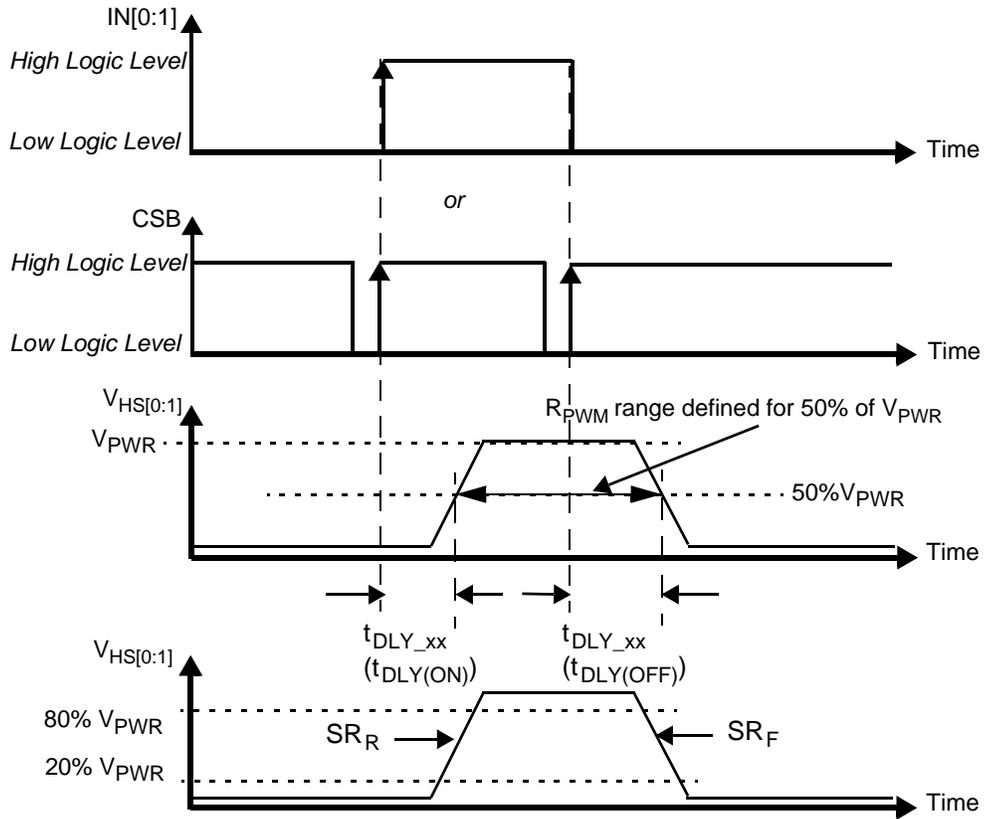
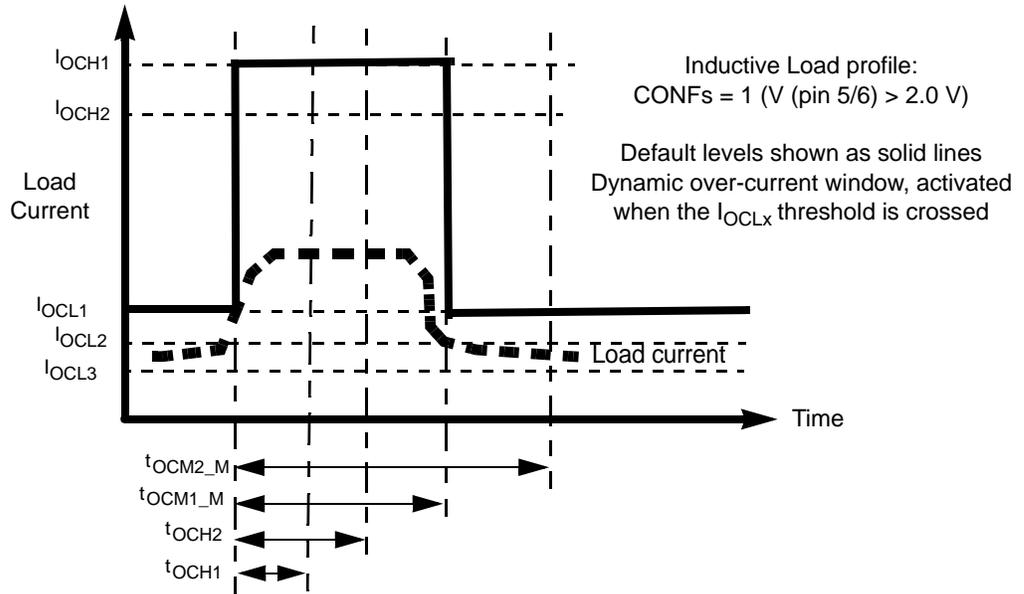
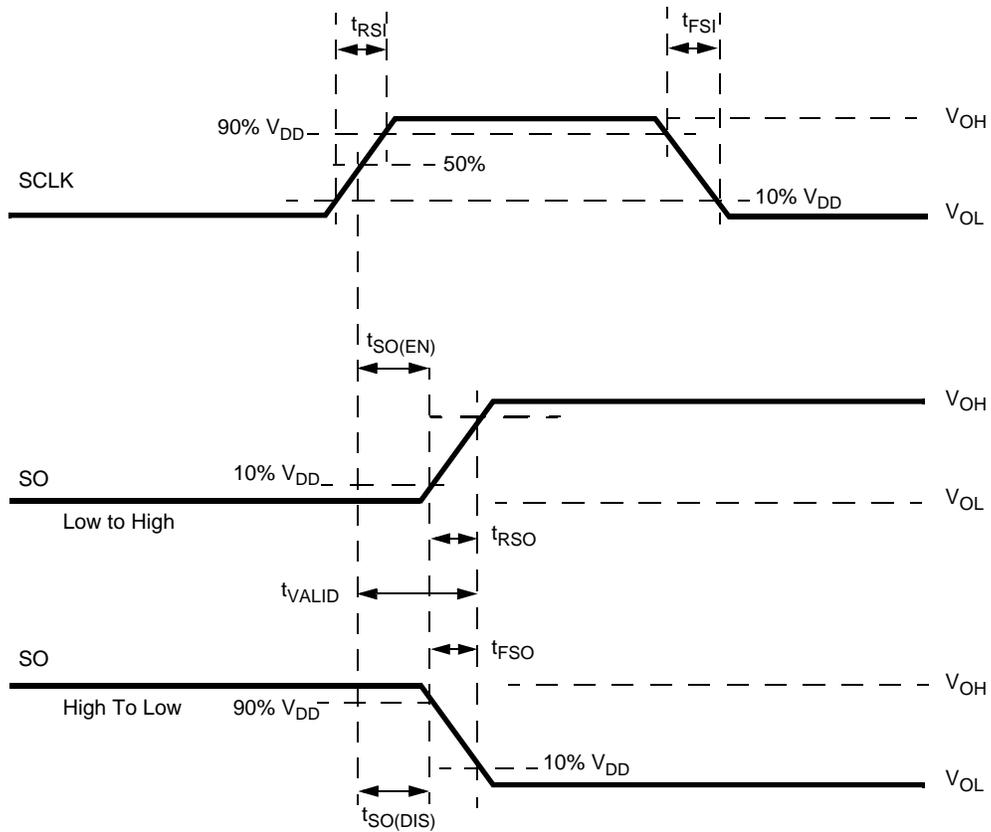

Figure 4. Output Voltage Slew Rate and Delay
Figure 6. Over-current Protection Profile for Applications with Inductive Loads (DC motors, solenoids)
Figure 8. Timing Diagram for Serial Output (SO) Data Communication
27. Rising and Falling edge slew rates specified for a 20 to 80% voltage variation on a 5.0 Ω resistive load (see Figure 4).
29. Rising and Falling edge slew rates specified for a 20 to 80% voltage variation on a 5.0 Ω resistive load (see Figure 4).
31. Time required to switch off the channel after detection of over-temperature (OT), over-current (OC), SC or UV error (time measured between start of the negative edge on the FSB pin and the falling edge on the output voltage until $V(HS[0:1]) = 50\%$ of V_{PWR}).
32. Settling time ($= t_{CSNSVAL_xx}$), SYNC output signal delay ($= t_{SYNCVAL_xx}$) and Read-out delay ($= t_{SYNREAD_xx}$) are defined for a stepped load current (100 mA < I(Load) < IOCLX A FOR CSNS_RATIO_S = 1, AND 300 mA < I(Load) < IOCLX A_0 FOR CSNS_RATIO_S = 0). (see Figure 8 and Output Current Monitoring \(CSNS\))
The CS pin allows independent current monitoring of channel 0 or channel 1 up to the steady-state over-current threshold. It can also be used to sense the device temperature. The different functions are selected by setting bits CSNS1_en and CSNS0_en to the appropriate value (Table 21). When the CSNS pin is sensed during switch-off in the (optional) track & hold mode (see Figure 8), it will output the scaled value of the load current as it was just before turn-Off. When several devices share the same pull-down resistor, the CSNS pins of devices, the current of which is not monitored, must be tri-stated. This is accomplished by setting CSNS0_en = 0 and CSNS1_en = 0 in their GCR register (Table 11). Settling time ($t_{CSNSVAL_XX}$) is defined as the time between the instant at the middle of the output voltage's rising edge ($HS[0:1] = 50\%$ of V_{PWRR}), and the instant at which the voltage on the CSNS pin has settled to $\pm 5.0\%$ of its final value. Anytime an over-current window is active, the CSNS pin is disabled (see Over-current Detection on Resistive and Inductive Loads). The current and temperature sensing functions are unavailable in Fail-safe mode and in Normal mode when operating without the V_{DD} supply voltage. In order to generate a voltage output, this pin requires a pull-down resistor ($R(CSNS)=1.0\text{ k}\Omega$ typ. and $470 < R(CSNS) < 10\text{ k}$). When the current sense resistor connected to the CSNS pin is disconnected, the CSNS voltage is clamped to $V_{CL(CSNS)}$. The CSNS pin can source currents up to about 5.6 mA.
edge of CSB. The SO output driver is enabled when CSB is logic [0]. CSB should transition from a logic [1] to a logic [0] state only when SCLK is at logic [0]. CSB is internally pulled up to V_{DD} through I_{UP} . (see Figure 6 and Figure 8)